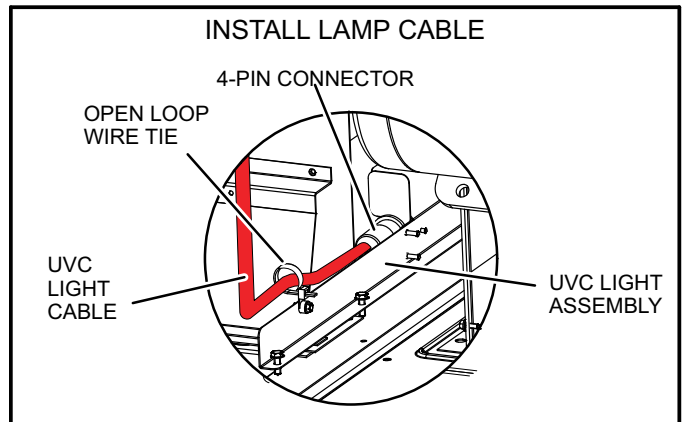

FIGURE 15
- 1- Run the UVC lamp cable through the open loop of wire tie attached to the UVC assembly (see figure 15).